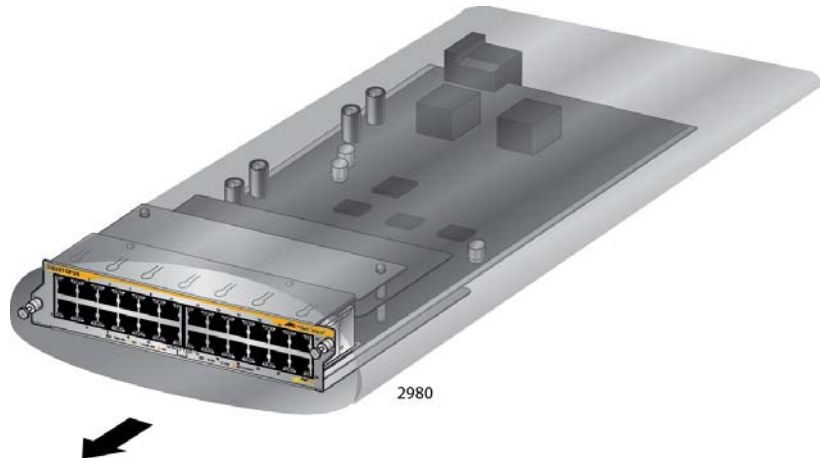

Figure 69. Removing an Ethernet Line Card from the Anti-static Bag
3. Carefully remove the Ethernet line card from the anti-static bag. Refer to Figure 69 on page 129.